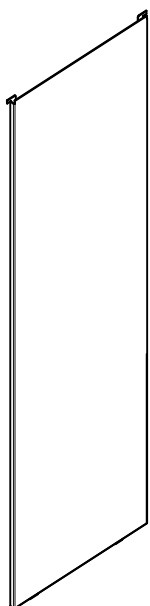
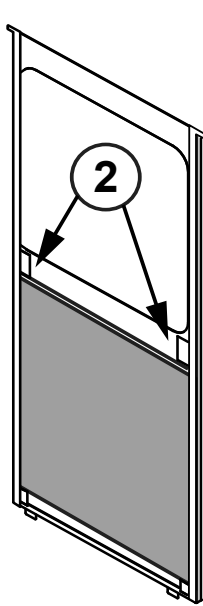
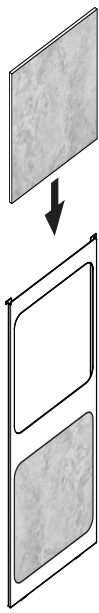

Figure 24.1
Figure 24.2
Figure 24.3
Your appliance ships with two different side options, one is a solid side panel (**Figure 24.1**) and tile side panel (**Figure 24.2**). There are two of each and no left or right side, these can be changed at anytime.
1. Remove solid panel from side by lifting up and pulling away from appliance (use a flat tool to pry from bottom if needed). **Figure 24.3**
2. Remove tile frame from side by lifting up and pulling away from appliance. **Figure 24.3** reference **solid side panel removal**.
3. Stack non-combustible material tiles in tile frame as shown in **Figure 24.2** by sliding first tile in, bend tabs on back side **Figure 24.3**, then slide last tile in position so that it rests on tabs.